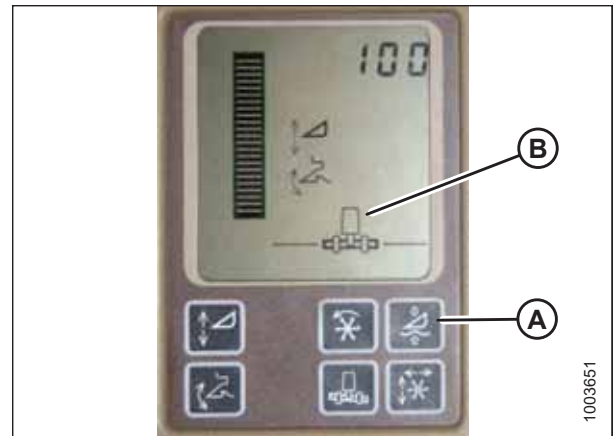

Figure 6.260: John Deere Combine Display
Do **NOT** use the active header float function (A) in combination with the MacDon auto header height control (AHHC)—the two systems will counteract one another. Header symbol (B) on the display should **NOT** have a wavy line under it and should appear exactly as shown on the Active Header Control Display in Figure 6.260, page 285.